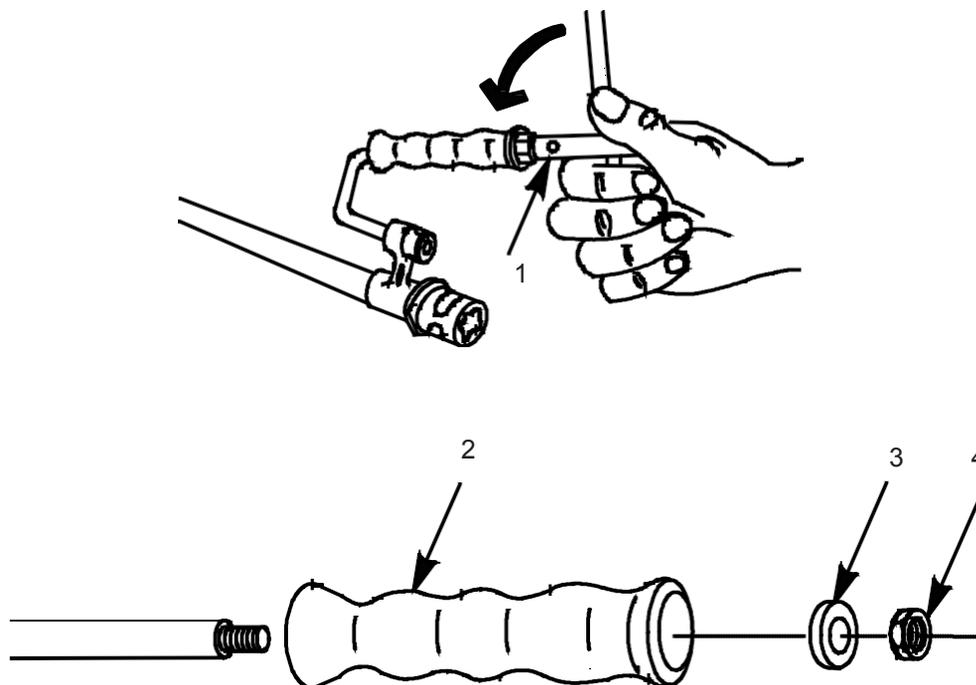

Figure 3. Box Spanner, Nut, Washer, Grip.
4. Using 10mm end of box spanner (Figure 3, Item 1), remove nut (Figure 3, Item 4) and discard. Separate washer (Figure 3, Item 3) and grip (Figure 3, Item 2). Use same procedure to disassemble grip, washer and nut from previous version barrel.